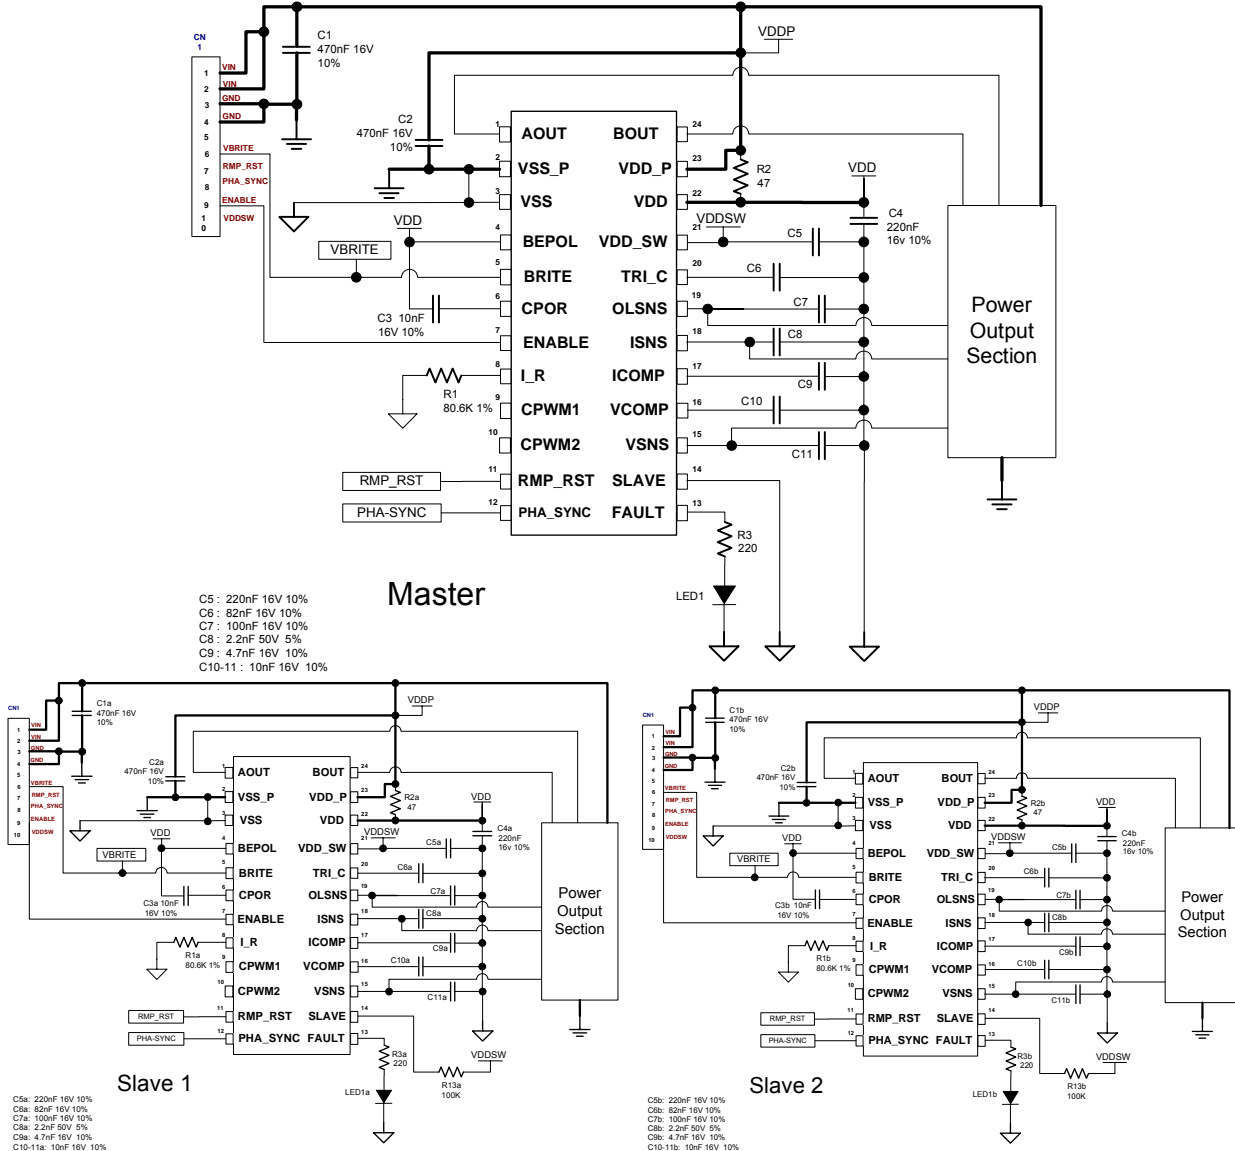

Figure 2 – Schematic Modules Connected as a Master and Slave
Simply connecting pin 14 to the ground for a master and to the VDD for a slave will do master and slave configuration. As shown in figure 2, module (A) configured as master and modules (B) and (C) configured as slaves.